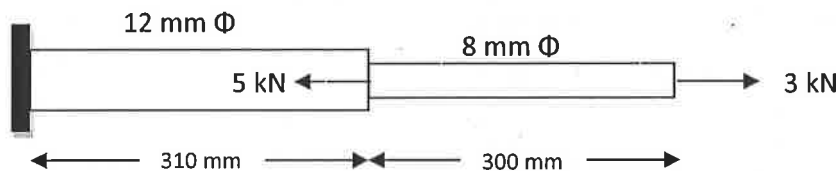

fig 1.
4. Determine change in length of the section that is subjected to loads as shown in the figure1. Take  $E = 2.1 \times 10^5 \text{ N/mm}^2$ .